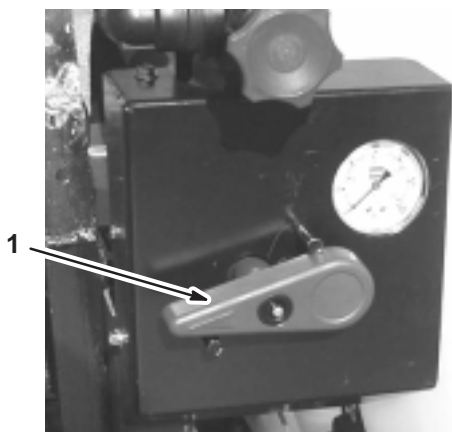

Figure 18
2. Move the control handle counter-clockwise, pointing rearward (Fig. 18).